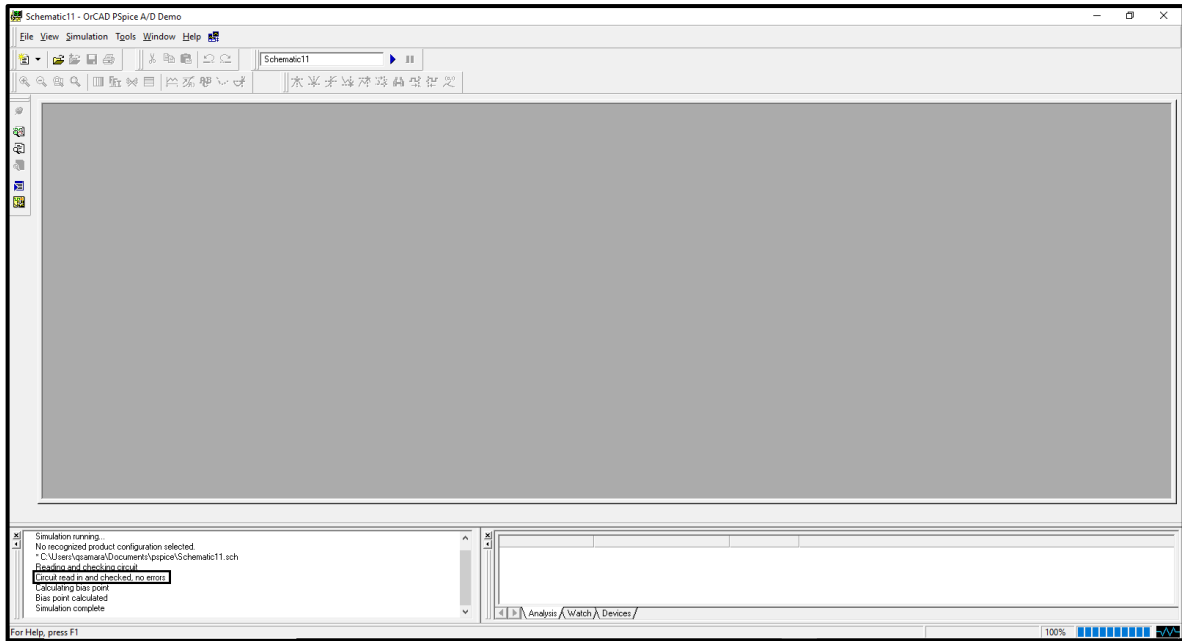

Figure.10
- When you click on “simulate” button the window shown in figure.10 will show up (simulation output window), if your circuit doesn’t have any errors you will see the message in the box in figure.10.